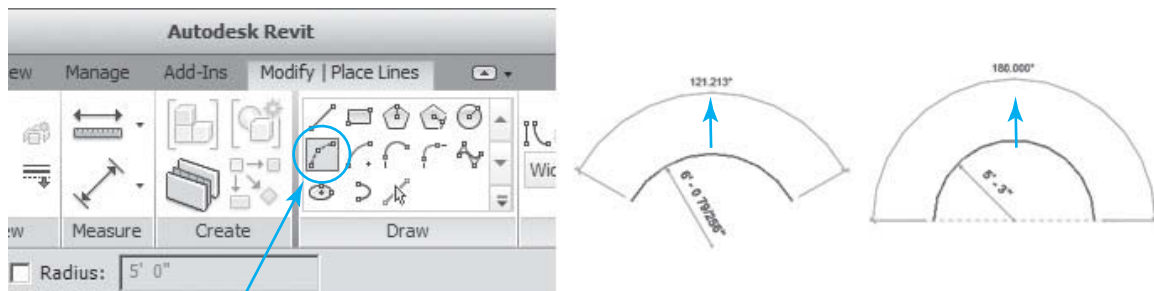

Figure 2-40
8. Notice that the center of the arc is automatically located (see Figure 2-40).